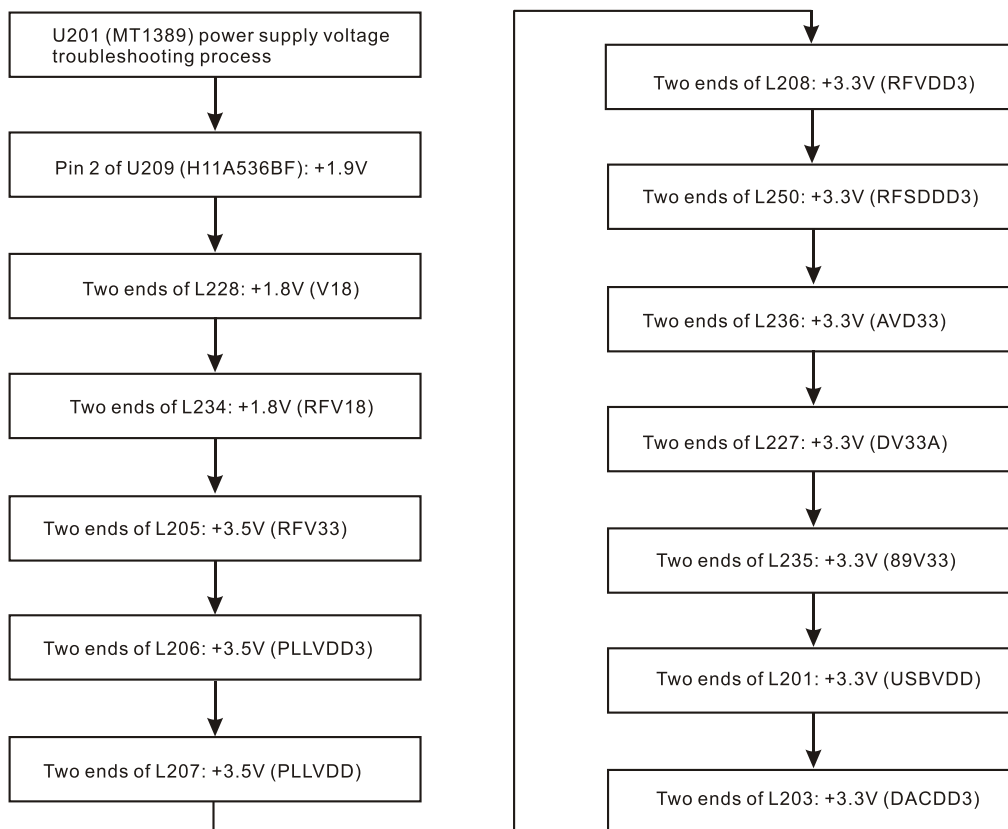

Figure 3.5.1.1 Troubleshooting process
1. MT1389 has many pins, so it is very difficult to test the power supply pin voltage directly. To make readers easy to test, we make the following troubleshooting process and the explanation to the corresponding element, shown as the following figure 3.5.1.1: